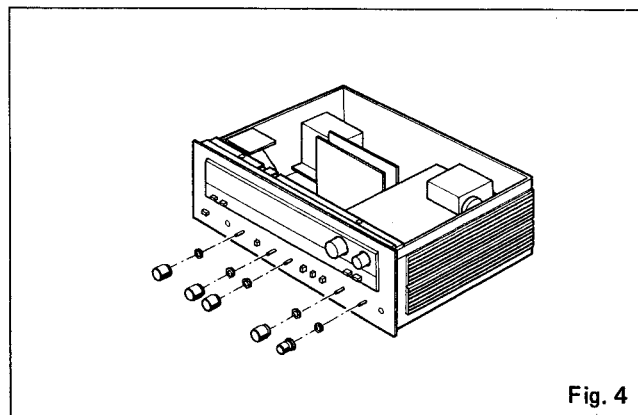

Fig. 4
- 4) Pull out the knob as shown in Fig. 4 and remove the mounting nut. To remove the front panel in this state, pull it towards you.